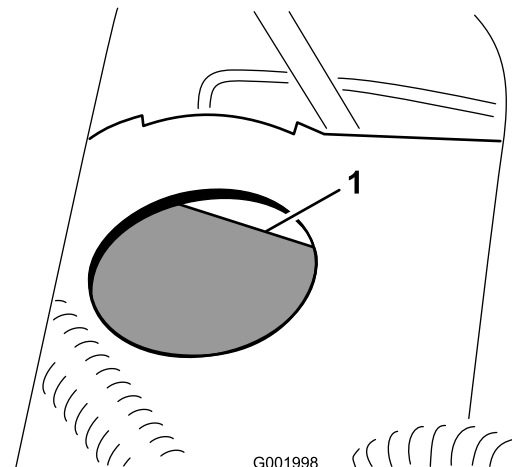

Figure 63
2. The fluid level should be up to the Full line on the reservoir (Figure 63).